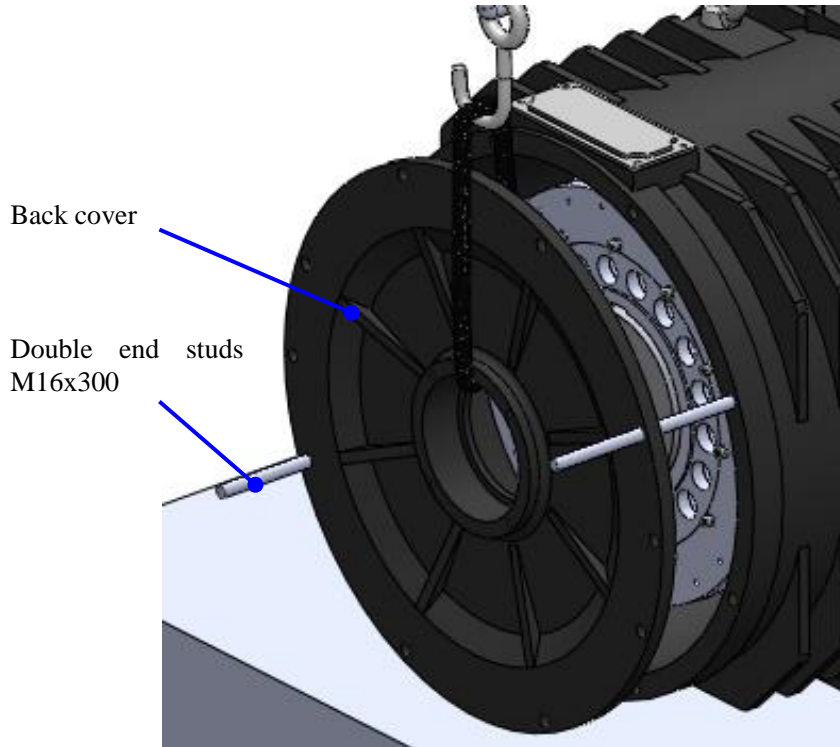

Figure 117: Install back cover
1. Use a lifting equipment to suspend the back cover. Then use a pair of double end studs M16x300 tightened into the threaded holes in the machine body. Then knock the back cover in position with a rubber hammer. See Figures 117 and 118.